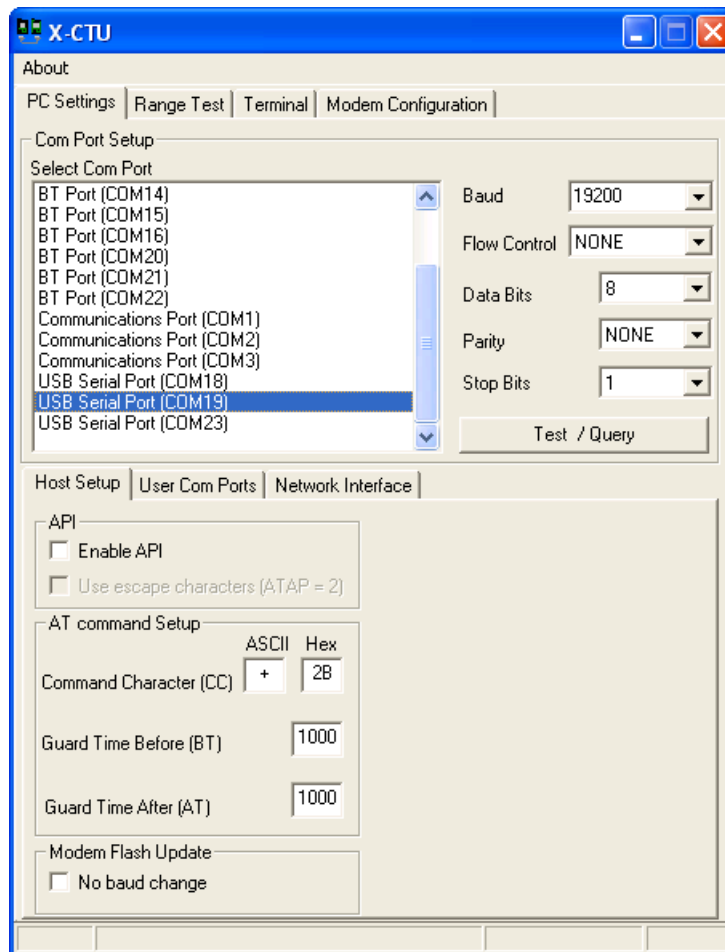

Figure 11-2: X-CTU Dialog for Setting Ports
- > or, the port may be labeled "USB Serial Port" (as shown in Figure 11-2)